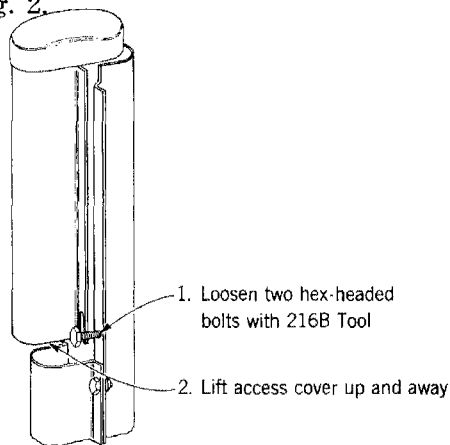

Fig. 2 — Remove Access Cover
2.02 The access cover is removed as shown in Fig. 2.